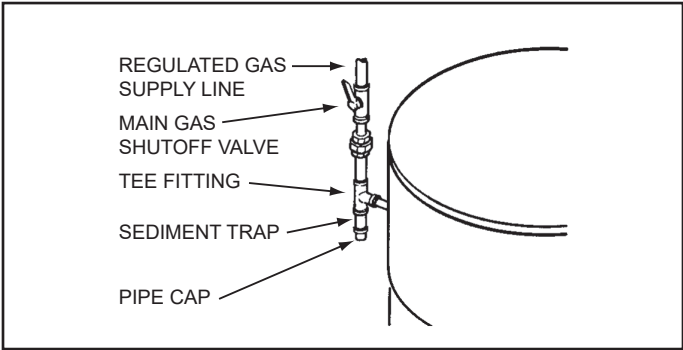

Figure 65. Supply Gas Line Installation
Ensure that all gas pipe is clean on the inside before installation. To trap any dirt or foreign material in the gas supply line a sediment trap must be installed as shown in **Figure 65**. The sediment trap must be readily accessible and not subject to freezing conditions. Install in accordance with the recommendations of the local gas utility company.
6. Install a sediment trap as shown in **Figure 65** (page 50).
7. Install a Main Gas Shutoff valve in the supply gas line as shown in **Figure 65** (page 50).